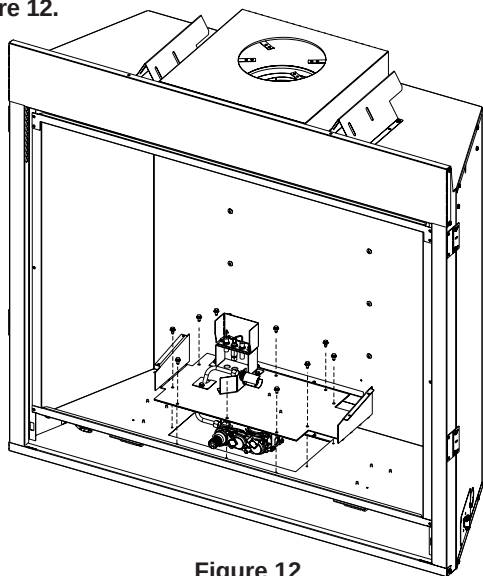

Figure 12
8. Remove ten screws and lift burner base assembly. Disconnect gas line. Retain burner and screws for reassembly. **See Figure 12.**
14. Turn gas on, check for leaks. Reinstall the burner base assembly and ten screws removed in step 8. **See Figure 12.**